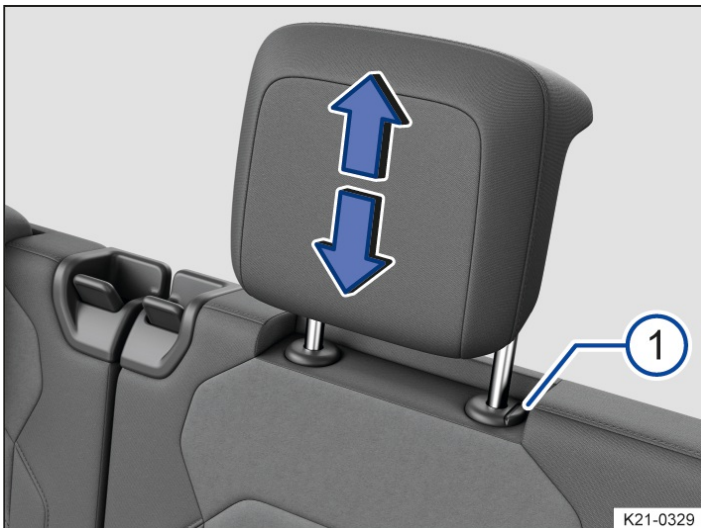
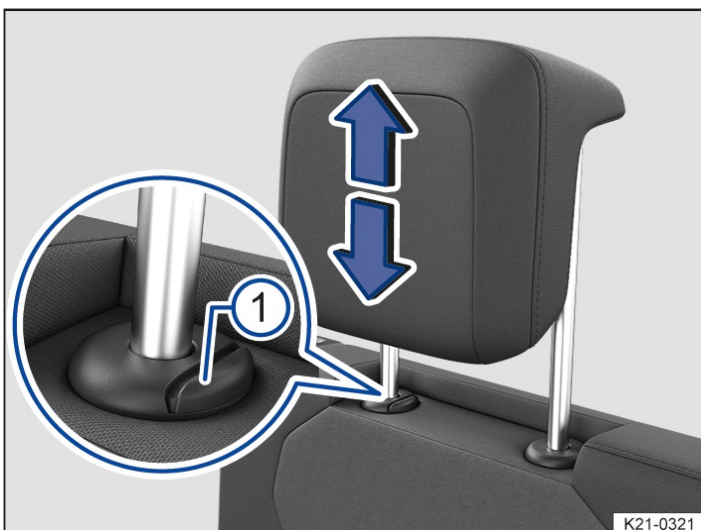

Fig. 2 General example: adjusting the head restraint on the second-row seats.
Fig. 3 General example: adjusting the head restraint on the third-row seats.
1. Slide the head restraint up or down in the direction of the arrow; you may need to press the button → *fig. 1* ¹, → *fig. 2* ¹ or → *fig. 3* ¹ first to release the head restraint.